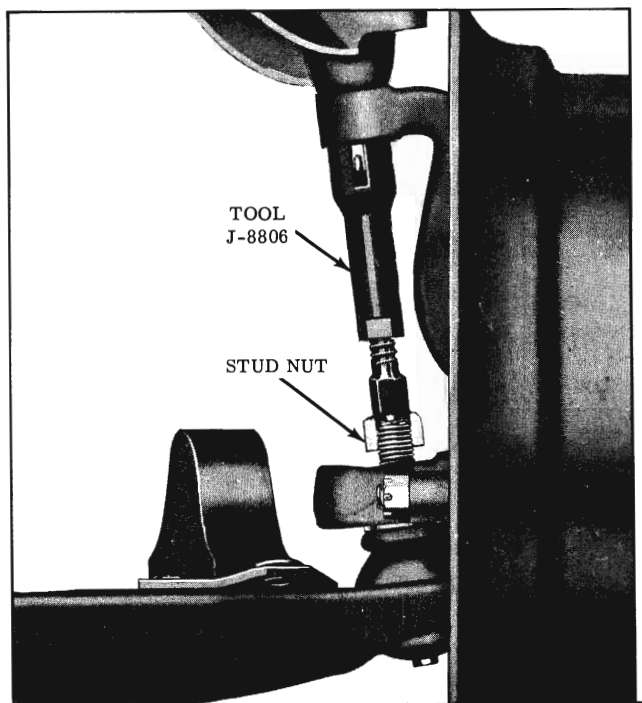

Fig. 5-20 Loosening Lower Ball Joint
- b. Loosen the lower ball joint nut, then install Ball Joint Removing Tool J-8806 as shown in Fig. 5-20.